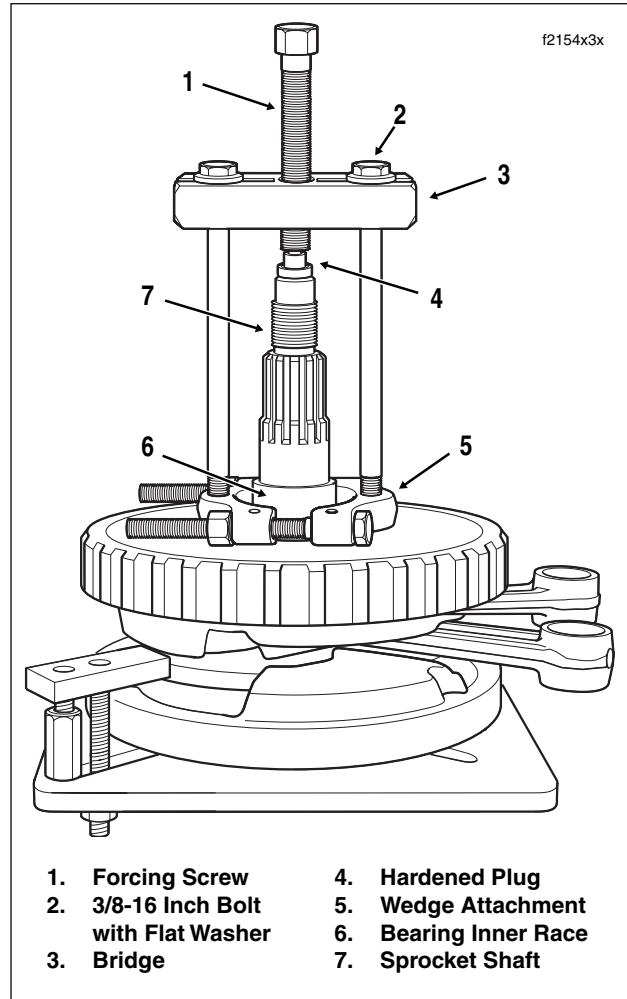

Figure 3-131. Remove Inner Race From Sprocket Shaft
- m. Verify that the tool assembly is square, so that the bearing inner race is not cocked during removal. See Figure 3-131.